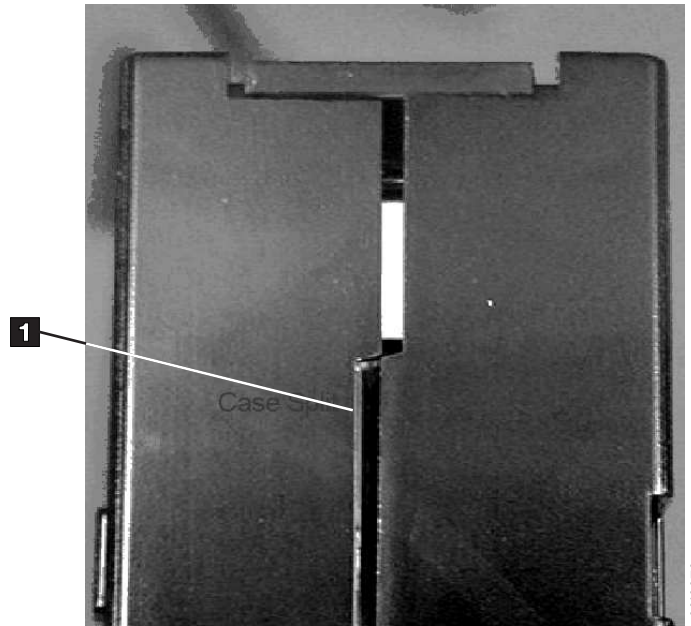

Figure 129. Checking for gaps in the seams of a cartridge
- Inspect the rear of the cartridge (the part that loads first into the tape load compartment) and ensure that there are no gaps in the seam of the cartridge case. If there are gaps in the seam (see Figure 129 on page 147), the leader pin may be dislodged.